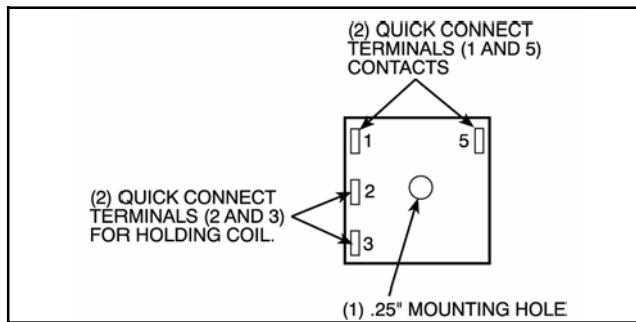

Fig. 4 - Top View, Winter Start Accessory (Time-Delay Relay)
2. Use field-supplied screws and be certain mounting holes are positioned upwards (Fig. 4), as device is position-sensitive.
2. Ensure the top terminals are up, as device is position-sensitive. (See Fig. 4.)